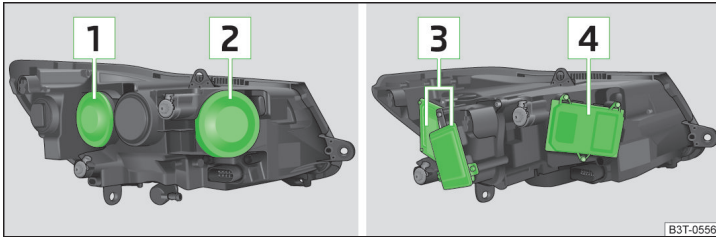

Fig. 199 Bulb arrangement: Headlight with halogen bulb/with Xenon bulb
- Remove the rubber cover **1** » Fig. 199 on page 220.
- Remove the rubber cover **2** » Fig. 199 on page 220.